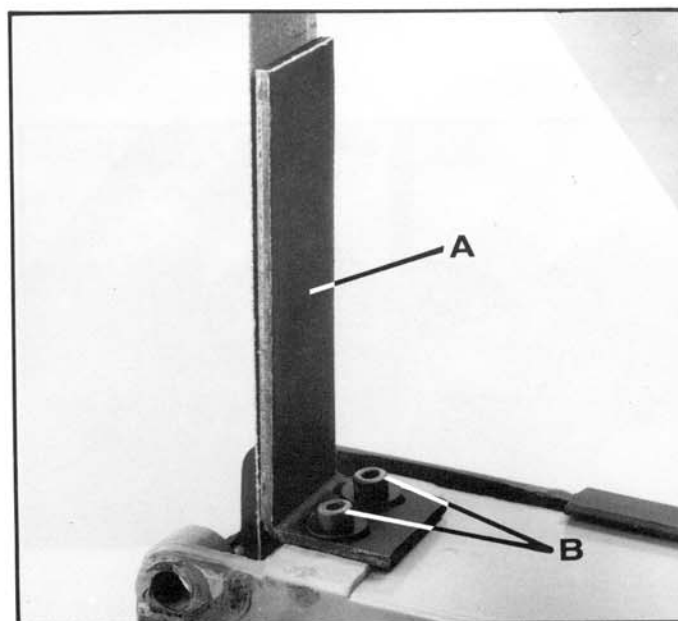

Fig. 15
The platen (A) Fig. 15, is constructed of heavy steel to properly support the work when sanding. The platen (A) should be adjusted so it is almost touching the back of the sanding belt by loosening the two screws (B), adjusting the platen, and tightening the two screws (B).
To remove the platen for operations such as strapping, polishing or other special operations, remove two screws (B) Fig. 15, and platen (A).
NOTE: FOR CLARITY, FIG. 15 IS ILLUSTRATED WITH THE TABLE REMOVED.